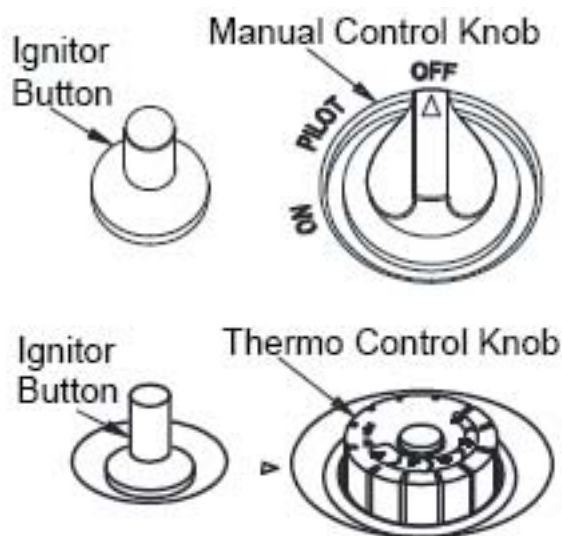

Figure 25-Control Knob In The OFF Position
3. Turn control knob clockwise  to the OFF position(see Figure 25).
4. Wait five (5) minutes to clear out any gas. Then smell for gas, including near the floor. If you smell gas, STOP! Follow "B" in the safety information above. If you don't smell gas, go to the next step.
5. Manual model: Press in and turn control knob counterclockwise  to the PILOT position. Press in control knob for five (5) seconds